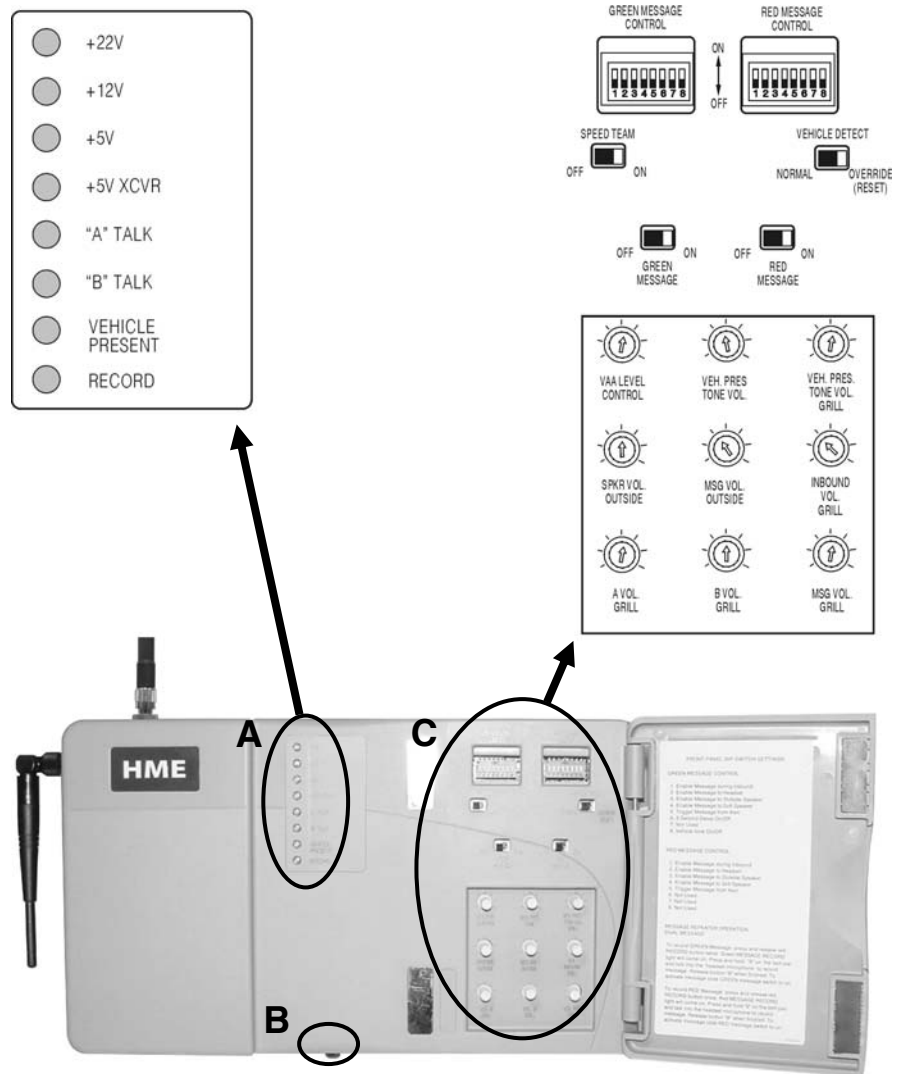

Figure 2. Base station with front door open
External base station features are shown in Figure 2, and described on page 3. Internal controls and connectors are shown in Figure 11 on page 20.
**Front** – (See A on Figure 2, page 2.)
**Bottom** – (See B on Figure 2, page 2.)
**Behind Front Door** – (See C on Figure 2, page 2.)